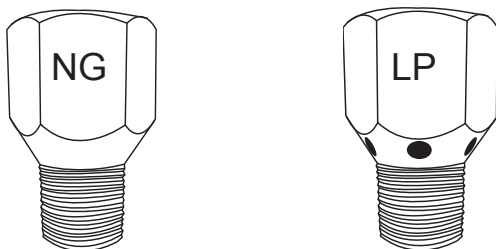

Fig. 3 Natural (NG) orifice on left; LP (vent holes) on right.
Main Burner Orifice - All fire features **MUST** have a main burner orifice installed on the inlet side of the burner. An orifice limits the amount of gas flow to the burner to ensure the flame is a safe and reasonable height to not pose a risk to people or property. The drawings below show the difference between a Natural Gas (NG) and Propane (LP) orifice. LP gas requires ventilation holes at the base of the orifice to provide a cleaner flame. See Fig. 3.